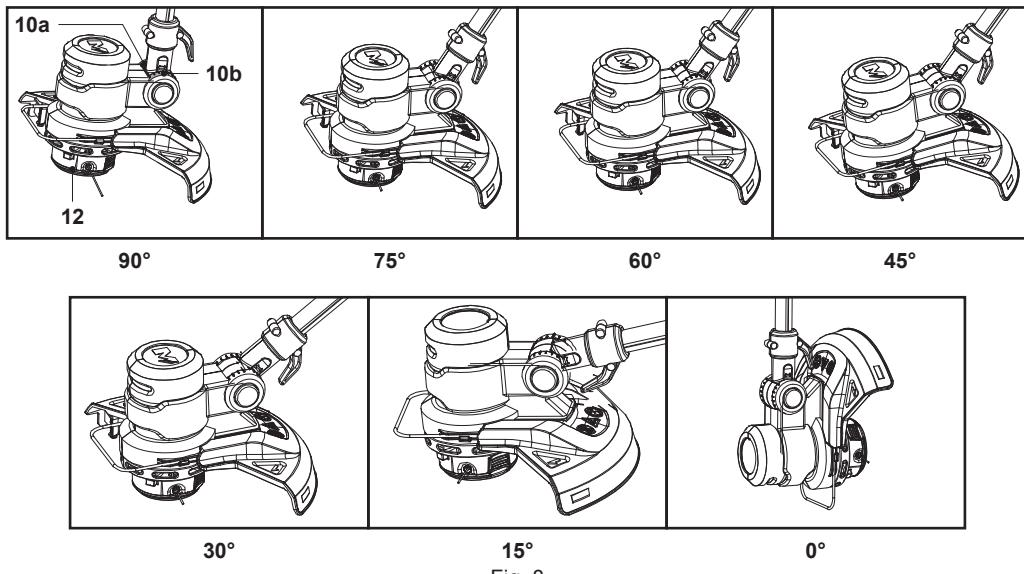

Fig. 8
Tilt the angle of trimmer head (12) to fit the ground conditions for trimming or edging use by aligning the indicator (10a) with the indication line (10b) (Fig. 8).